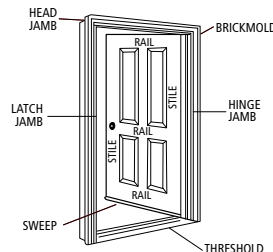

Fig. 1
1. For most installations, the rough framed opening (the distance between studs on the right and left and the distance between the header and the sub-floor) should be 2-1/4" wider and 3" taller than the door itself (not including the door jamb Fig. 1).